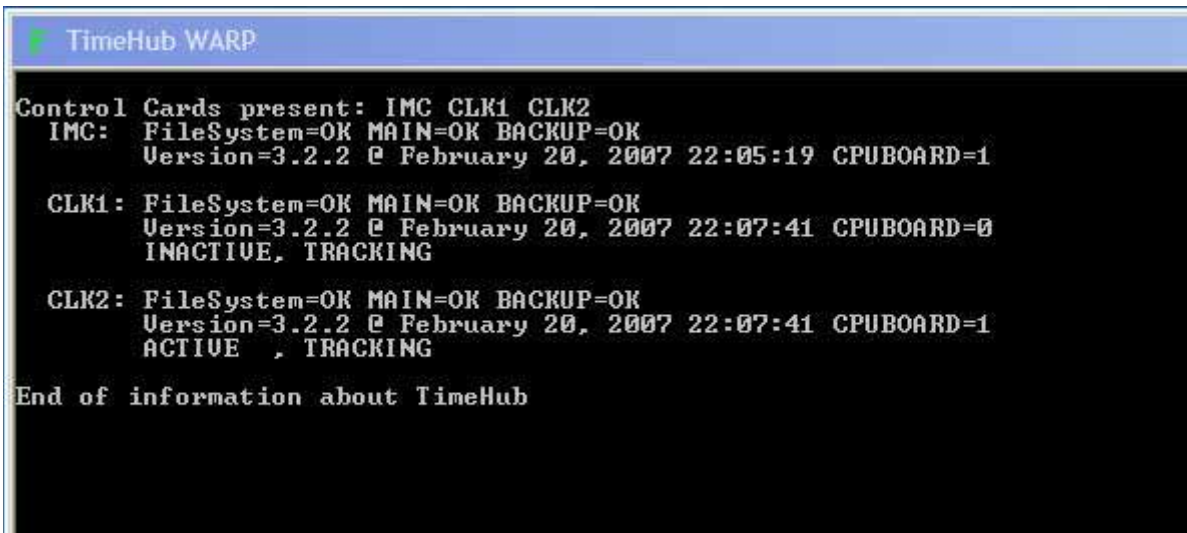

Figure 5-15. The WARP Log Window
5. Click **Rtrv Info**. The current information for the TimeHub appears in a log window, as shown in Figure 5-15. If an error dialog box appears, verify that the entries in the top four fields are valid.